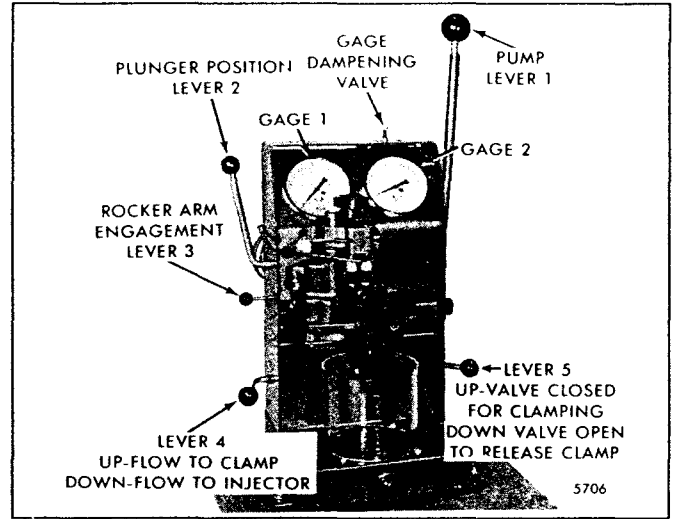

Fig. 34 – Injector in Position for Testing with Tester J 23010-A
1. Clamp the injector properly and purge the air from the system (Fig. 34).
1. Clamp the injector properly in Tester J 23010-A and purge the air from the system (Fig. 34).